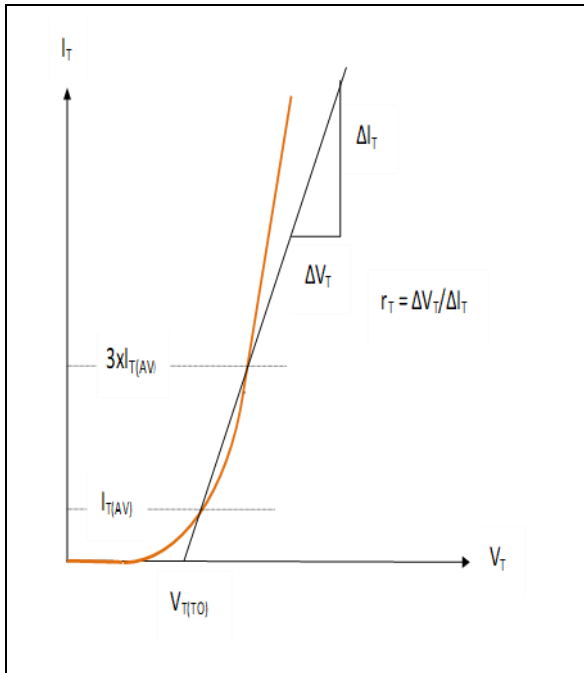

Fig. 19 $V_{T(TO)}$ & r_T represented by a chord
2. As shown in Fig. 19, where a chord is drawn through $I_{T(AV)}$ and $3 \times I_{T(AV)}$. The definition is commonly used for thyristors. For rectifier diodes, a chord through $3 \times I_{T(AV)}$ and $5 \times I_{T(AV)}$ sometimes gives a better result.
3. A variation of Fig. 19, which uses two straight lines instead of one to approximate to the true curve. In this version the lines pass through $1/6 \times I_{T(AV)}$ and $I_{T(AV)}$ and also $I_{T(AV)}$ and $20 \times I_{T(AV)}$.